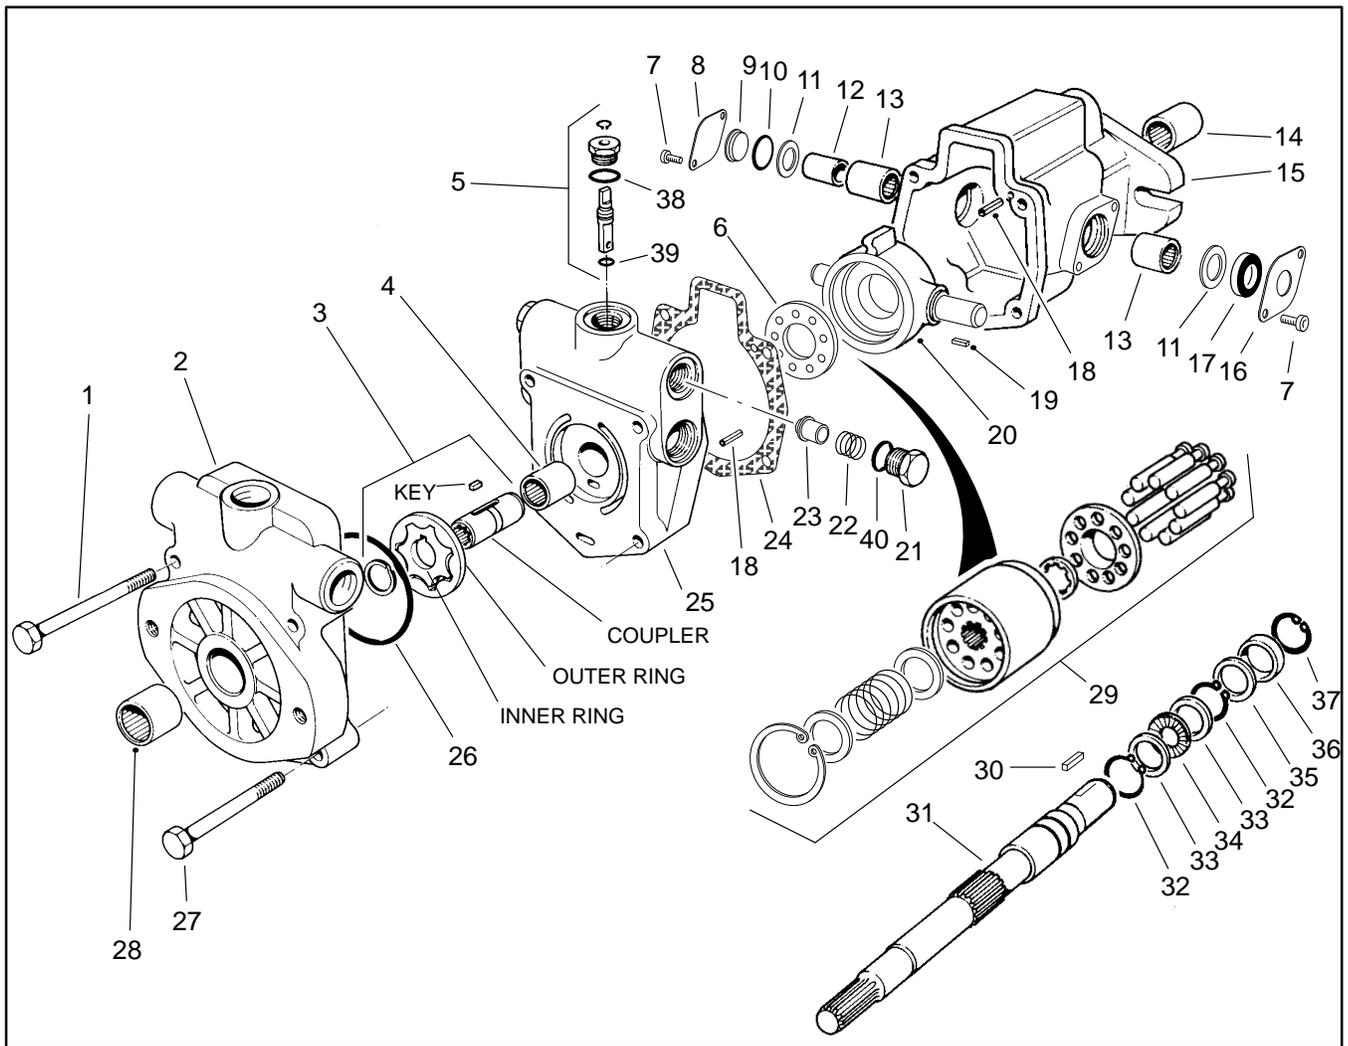

Figure 24
### Disassembly (Fig. 24)
3. Inspect backplate assembly (25) (see Fig. 24).
4. Inspect camplate assembly (20) (see Fig. 24). There should be no signs of scoring on the piston shoe surfaces.
5. Inspect housing assembly (15) (see Fig. 24).
### Reassembly (Fig. 24)